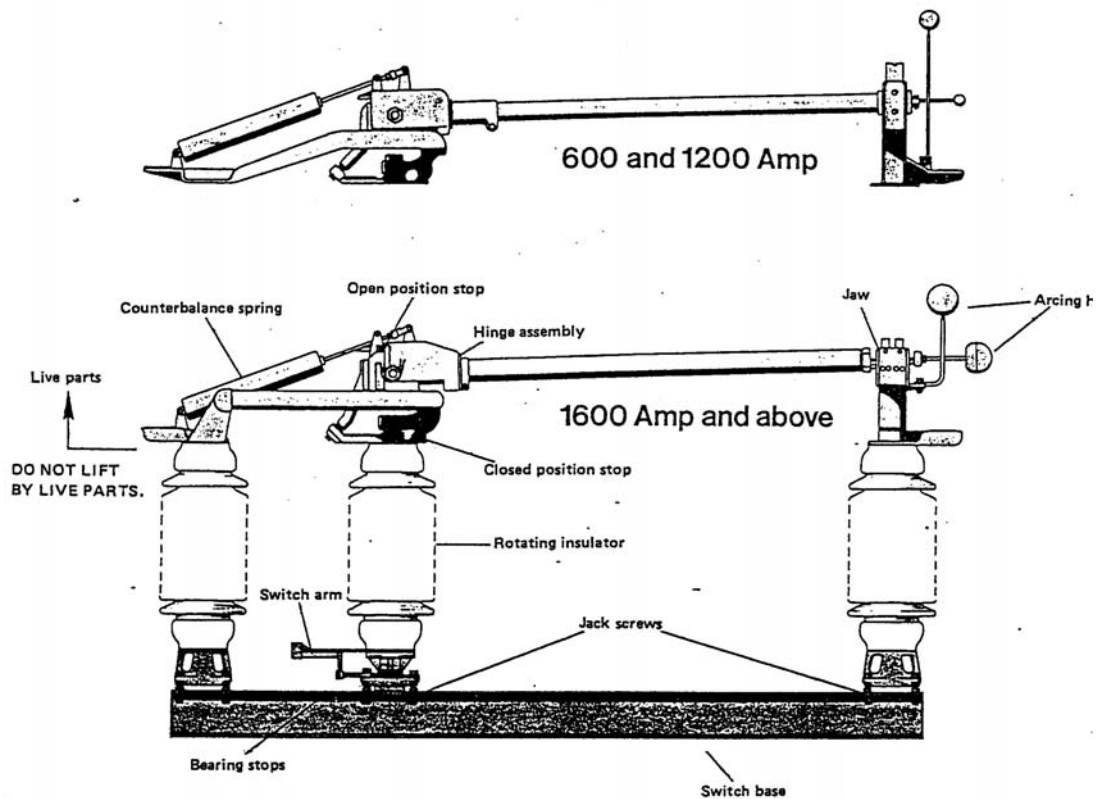
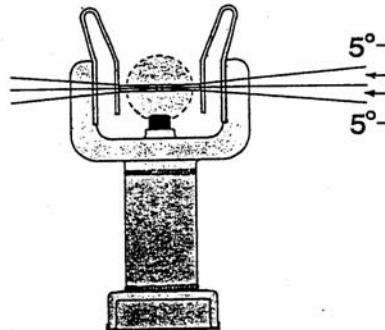

Figure 1 - Identification of parts (No scale)
Figure 9
10. The switch is fully closed and will have adequate contact pressure if the blade has rotated to within plus or minus  $5^\circ$  of perpendicular in the contacts as shown in figure 9. It may be necessary to adjust the closed position stop (see figure 1) to achieve good contact. Adjustment of the bearing stops may also be required.
11. If applicable, install the arcing horns. The blade horn is screwed into the threaded hole in the blade tip, and the jaw horn is bolted to the recessed tang on the jaw (see figure 1). The horns should touch *lightly* throughout their stroke. Arcing horns rubbing together with excessive pressure can cause the blade to rotate outside the contacts, causing switch malfunction. Bend the jaw horn as required to achieve enough pressure for contact, but not so much as to cause binding.